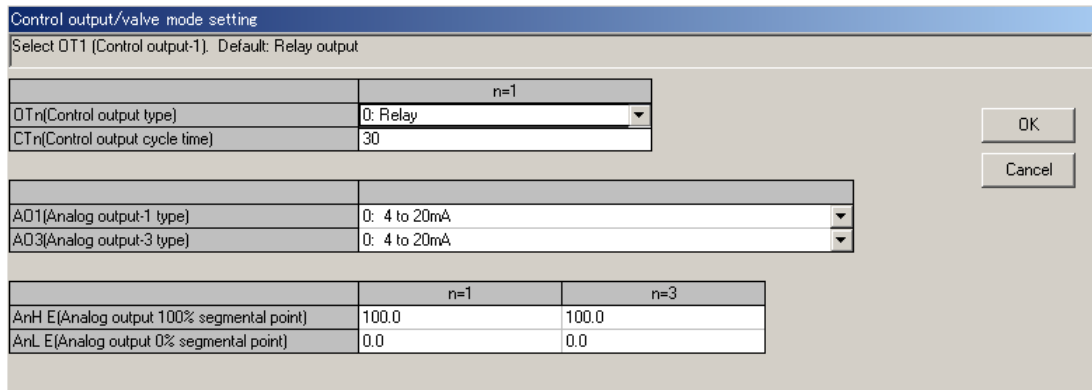

Figure 4.2.6 Control Output/Valve Mode Dialog Box (Example of UT551)
- (9) The Control Output/Valve Mode Setting dialog box (Figure 4.2.6) opens.
- (10) Set the parameters.
- (11) When you have finished setting the parameters, click **OK**.
- In the Control Output/Valve Mode Setting dialog box (figure 4.2.6), click **OK**.